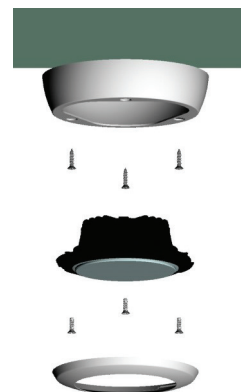

Figure 5
1. Position mounting base in desired location and secure using (3) #4 flat head screws.
3. Once all electrical connections are made, place the led subassembly housing into the base, line up the holes and secure with (3) machine screws which are included. (See Figure 5)